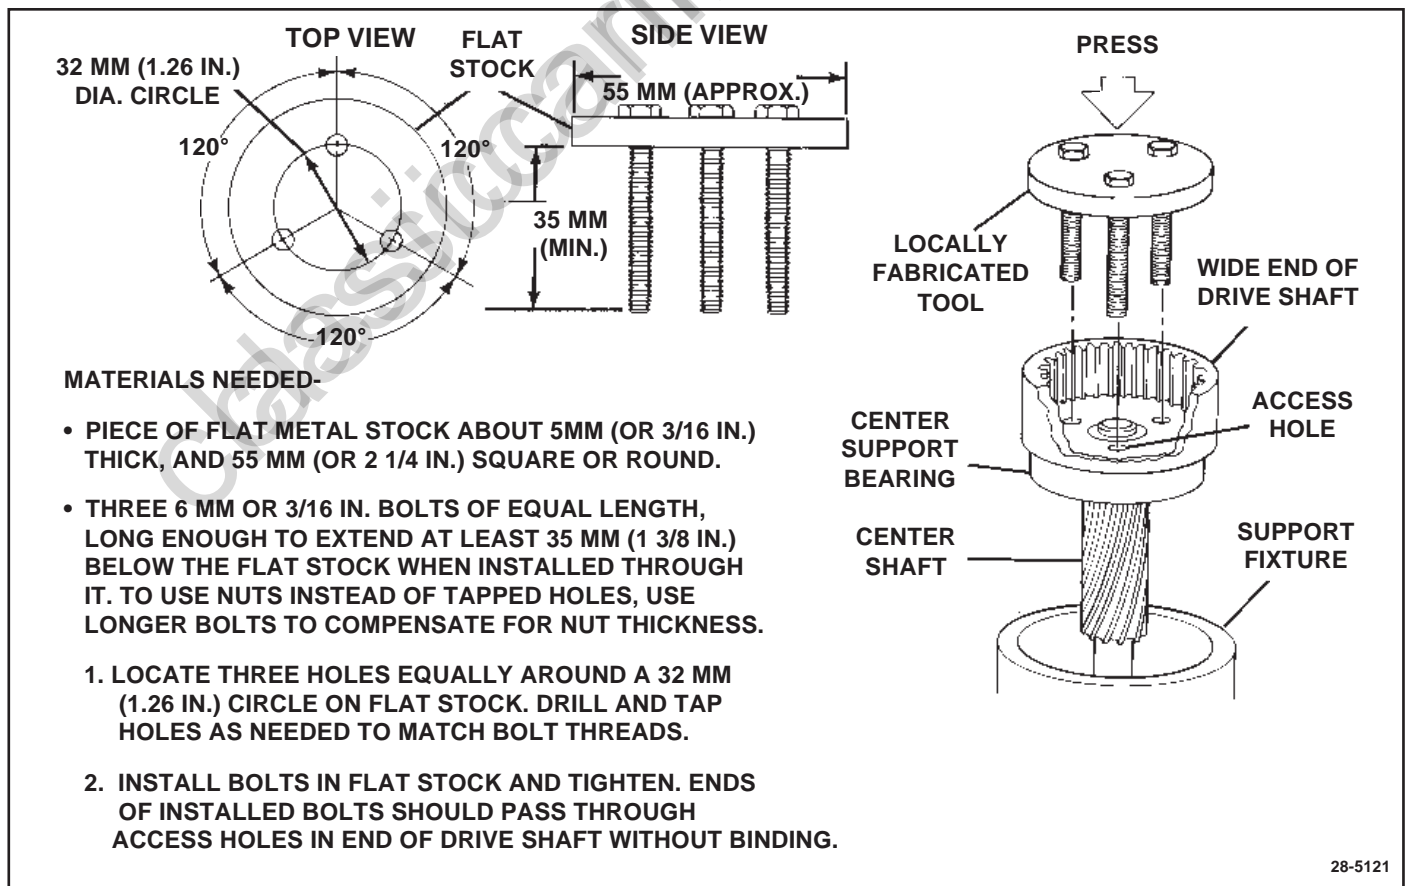

Figure 14. Tool for Removing Center Support Bearing
- Center support bearing (10) from drive shaft (15) using locally fabricated tool as shown in Figure 14.
- Center support bearing (10) from drive shaft (15) using locally fabricated tool (Figure 14). With drive shaft in suitable support fixture, place tool bolt ends through access holes in wide end of drive shaft and squarely press bearing off of surface on center shaft.